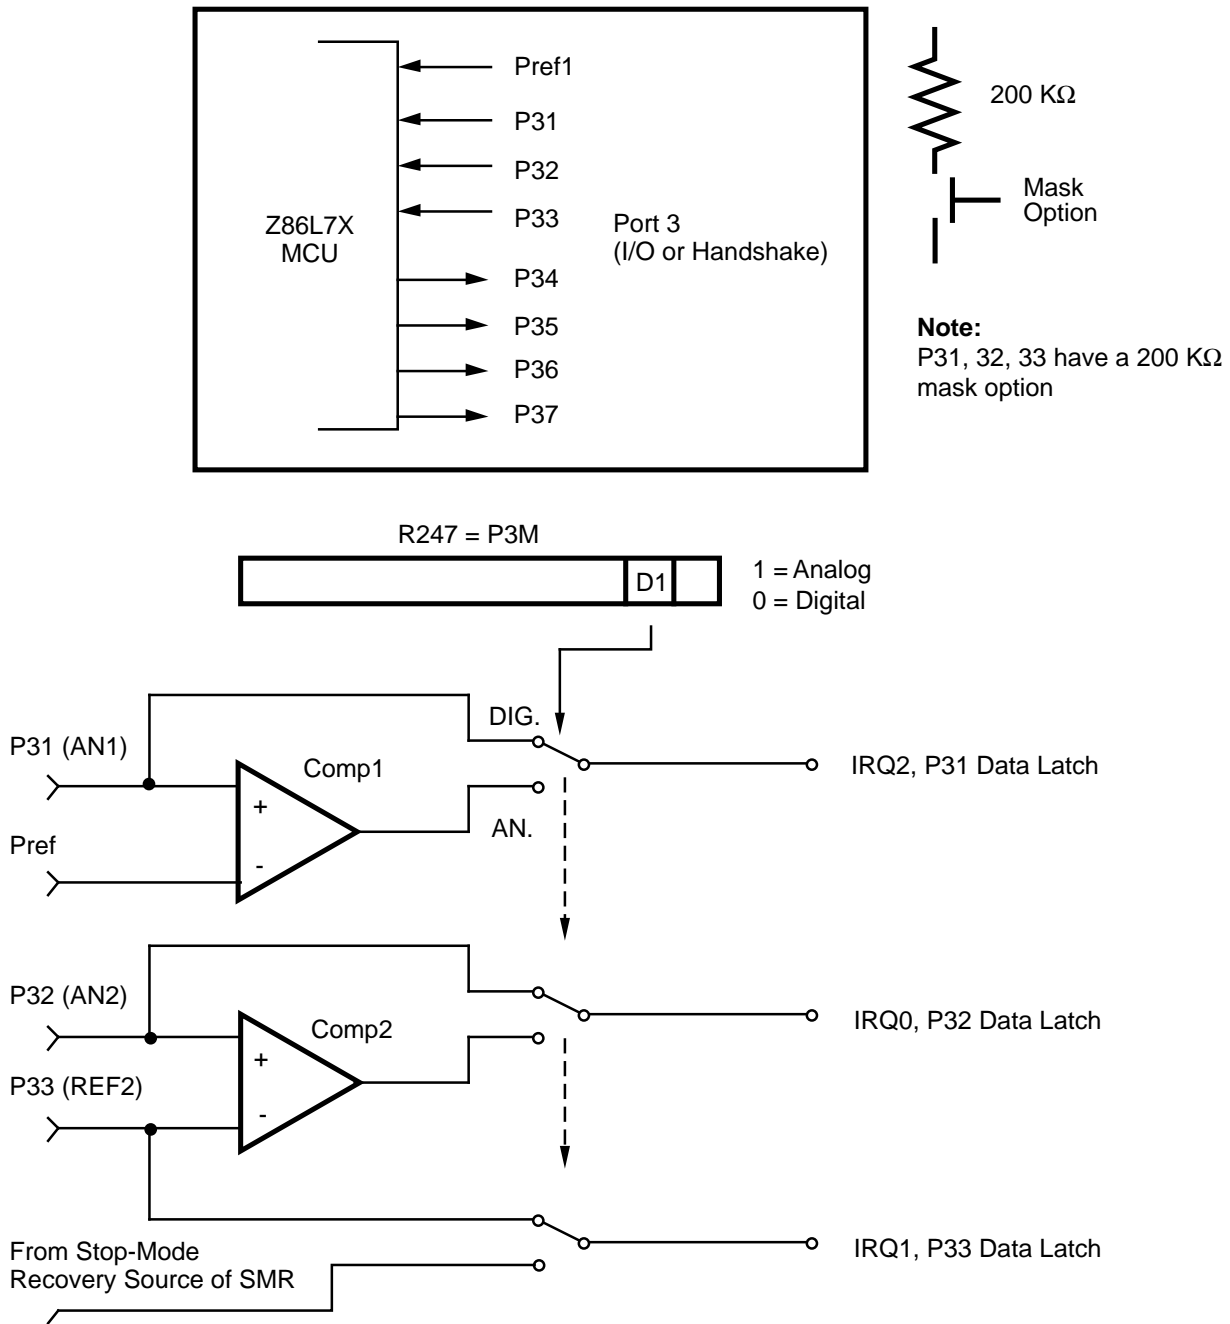

Figure 17. Port 3 Configuration
**Comparator Inputs.** In Analog Mode, Port 3 (P31 and P32) have a comparator front end. The comparator reference is supplied to P33 and Pref1. In this mode, the P33 internal data latch and its corresponding IRQ1 is diverted to the SMR sources (excluding P31,P32, and P33) as shown in figure 41. In digital mode, P33 is used as D3 of the Port 3 input register which then generates IRQ1 as shown in Figure 17.